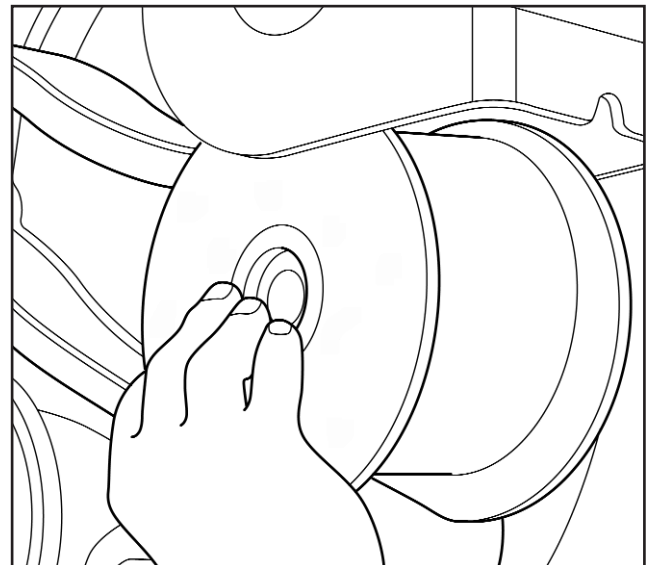

Fig 4.40
11. Refit the trailing arm to the hanger bracket (Fig 4.40) and insert new pivot bolts.